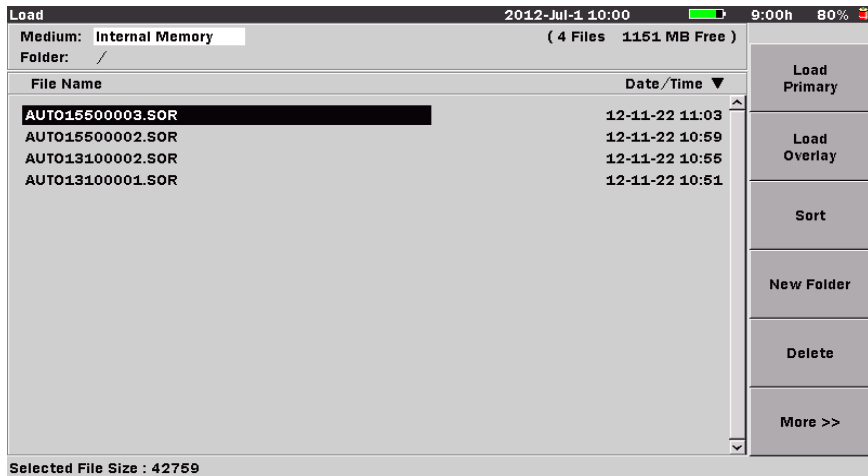
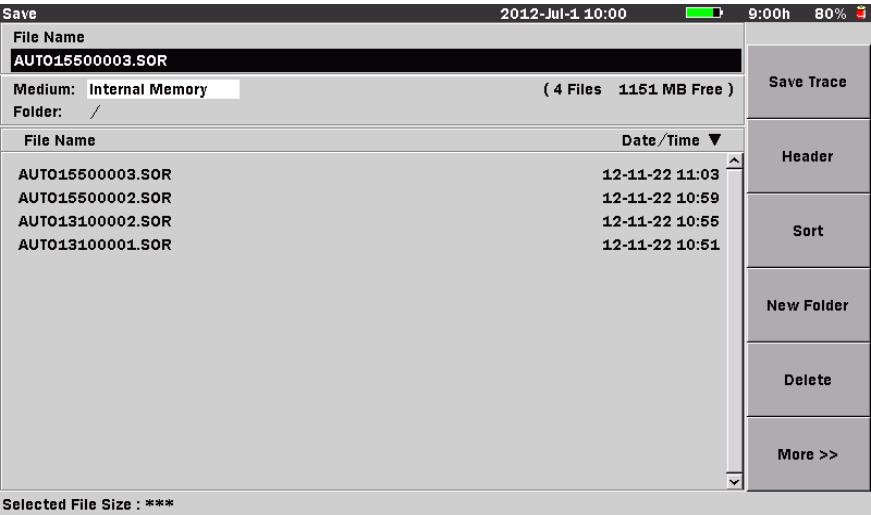

Figure 4-37: Load Screen
Figure 4-41: Save Screen
1. Press the **File key**, the Load screen appears (see Figure 4-37 on page 4-93).
Use either the Save screen (see Figure 4-41 on page 4-103) or the Load screen (see Figure 4-37 on page 4-93) to delete any data files stored in the internal memory or on a USB memory stick. You can delete a single file, multiple files or all of the files in the current directory.
1. Press the **Save key**, or the **File key**, if not already displaying either the Load screen (see Figure 4-37 on page 4-93) or the Save screen (see Figure 4-41 on page 4-103).
1. Press the **Save key**, or the **File key**, if not already displaying either the Save screen (see Figure 4-41 on page 4-103) or the Load screen (see Figure 4-37 on page 4-93).
Use either the Save screen (see Figure 4-41 on page 4-103) or the Load screen (see Figure 4-37 on page 4-93) to copy data files stored in the internal memory or on a USB memory stick. You can copy a single file, multiple files or all of the files in the current directory.
2. Perform the desired OTDR test. When the data collection is complete the Save screen (see Figure 4-41 on page 4-103) is displayed with the File Name field highlighted.
1. At the completion of a test, press the **Save key**. The Save screen (Figure 4-41) appears with the File Name field highlighted.
1. Press the **Save key**. The Save screen appears (see Figure 4-41 on page 4-103).